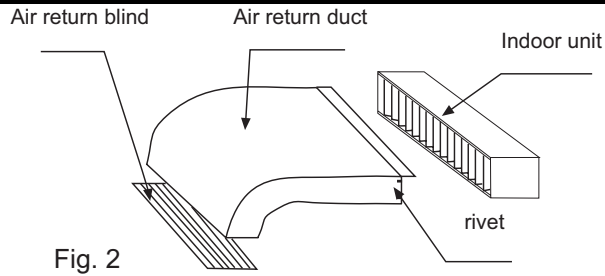

Fig. 2
- ② Lift it up for about 45 degree and remove it from ornament. Tear off adhesive tape fixing air filter on the back of the air inlet grill. (Refer to Fig. 2)
1. Drill a hole in the wall and insert the connecting pipe and wire through a PVC wall-through tube purchased locally. The wall hole shall be with a outward down slope of at least 1/100. (See Figure 2)
- Use rivet to connect the air return duct on the air return inlet of the indoor unit, then connect the other end with the air return blind. As Fig. 2 shown.